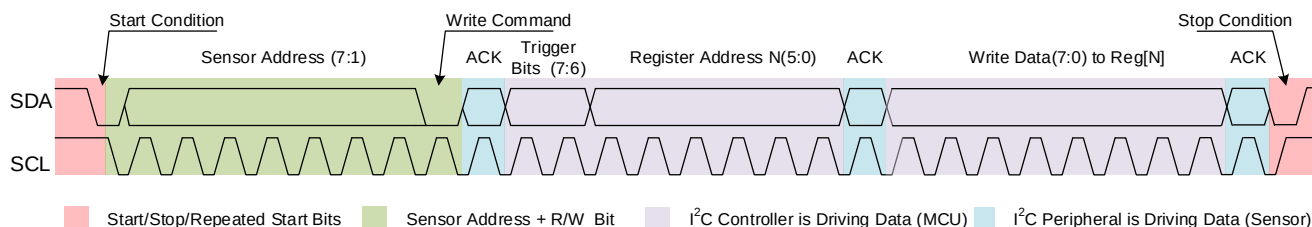

Figure 13: I²C Write Mode (Single Writing)
Writing begins by sending the start condition, followed by the sensor address and write command (0). Then the user must send the 2-bit trigger and the register address (N(5:0)). The next byte contains the data to write (see Figure 13).